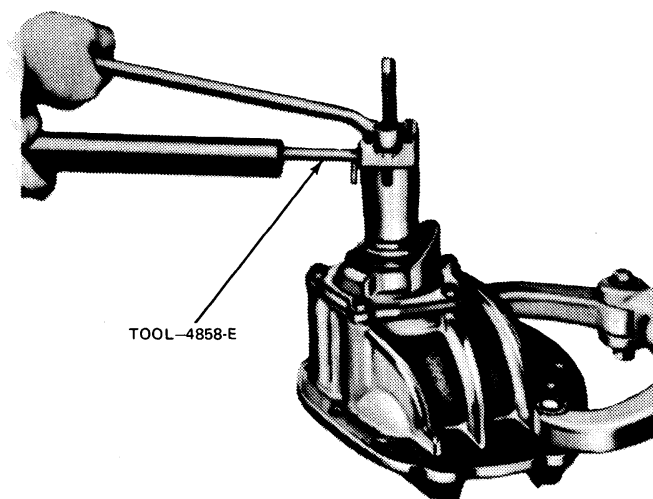

FIG. 20 Installing U-Joint Flange
11. Install the U-joint flange using the tool shown in Fig. 20.
13. Hold the flange with the tool shown in Fig. 20 while tightening the nut.